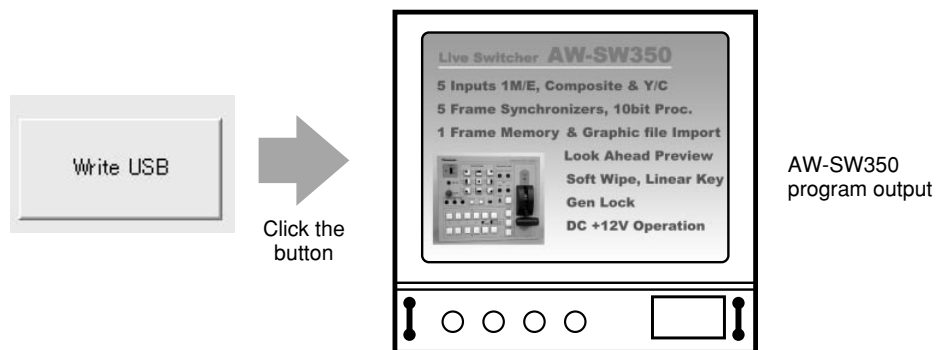

Fig.14 PGM check
**6** Click the “Write USB” button to start transferring the image data. After the completion of the transfer, monitor the AW-SW350’s PGM output and check that the image data has been transferred. (Fig.14)